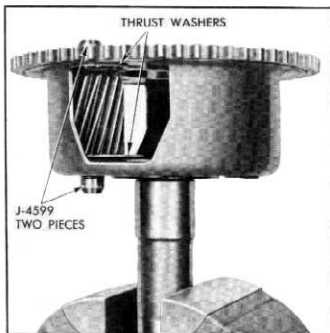

Fig. 115—Installing Planet Pinion
16. Feed the second tool J-4599 in from the top, picking up the upper thrust washer and the planet pinion and pushing the already installed tool J-4599 out the lower end (fig. 115). As the first tool is pushed down, insure that it picks up the lower thrust washer.